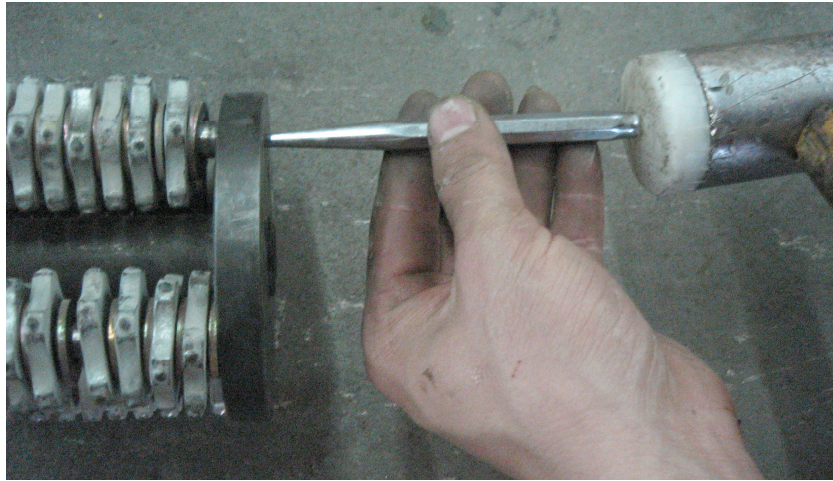

Figure 8
3. Use a pin and a mallet to remove the blade shafts. (See Figure 8)